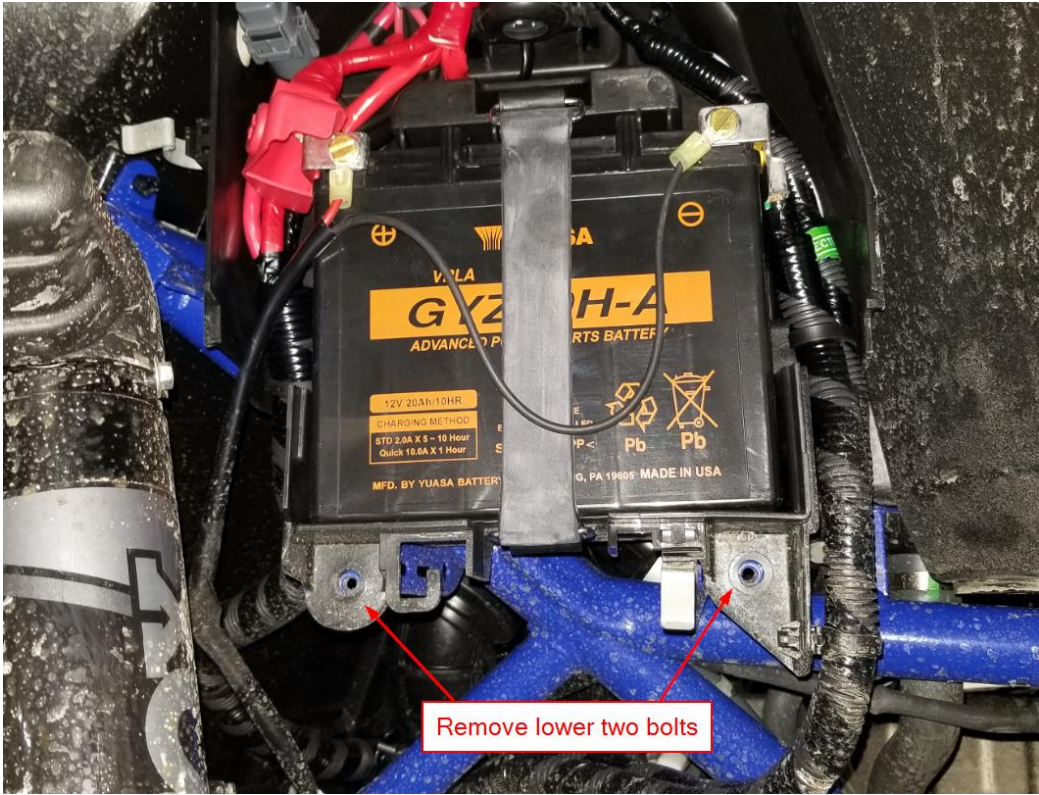

Figure 29
- b. Remove the lower two bolts from the battery compartment as shown in Figure 29.